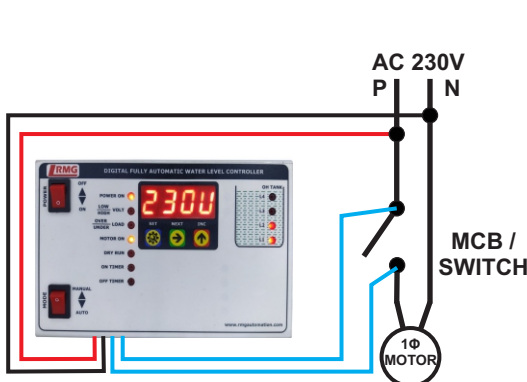
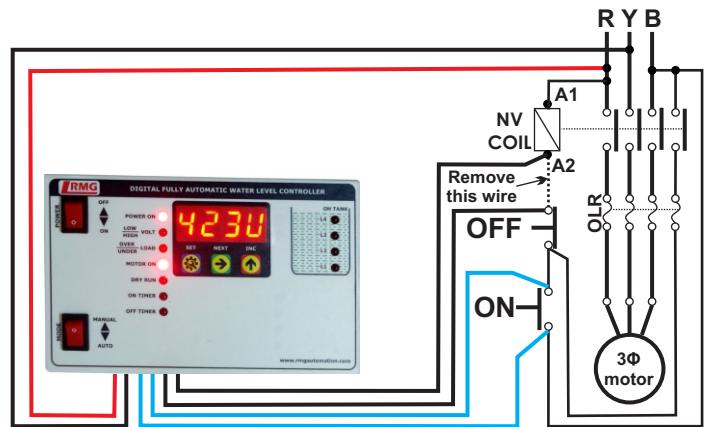
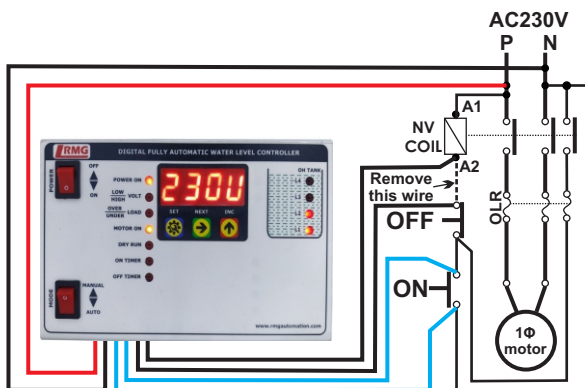

Figure1: 1Φ SWITCH/MCB
Figure2: 3Φ Starter
Figure3: 1Φ Starter
Step 2: As per the model purchased, check the label and connect AC supply (230V / 440 V) to red and black wires refer figure 1 and figure 2.
Step 3: For switch or MCB, Connect blue pair wire of the controller to the switch/MCB of the motor in parallel as shown in figure 1.
Step 4: For starter, Connect blue pair wire of the controller to ON button of starter in parallel and black pair wire to OFF button in series (Refer to figure 2 and figure 3).